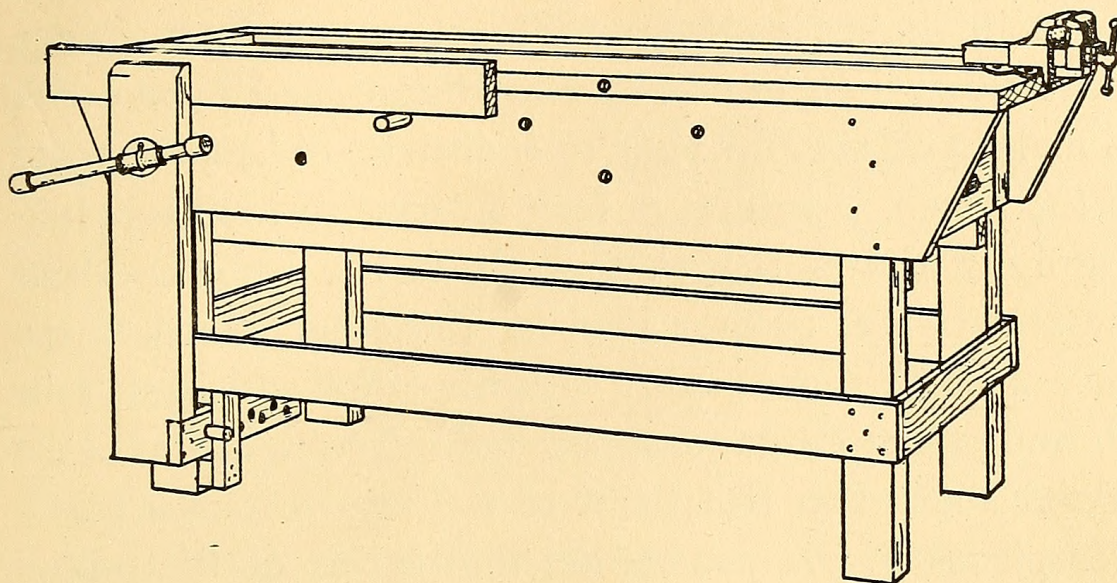
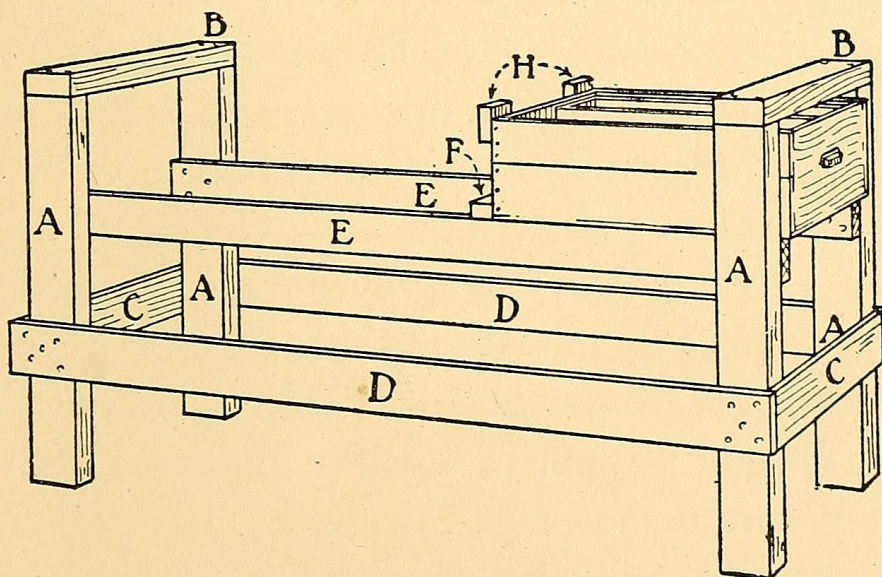
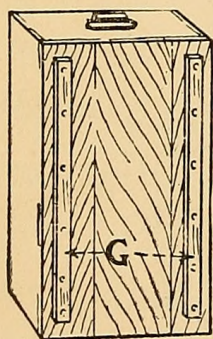

FIG. 6. — A Work Bench with Tool Drawers.
FIG. 7. — Detail of Framework.
FIG. 8. — Box
Figure 6 shows
**A Work Bench with Tool Drawers**, which is almost as simple to make as the one just described. The drawers are grocery boxes and slide into the ends of the bench on the upper rails of the framework (Fig. 7). The bench
illustrated is 6 feet long, 24 inches wide, and 2 feet 8 inches high, but as mentioned before you may change these dimensions to suit your conditions, and if you prefer to make a cabinet for your tools instead of keeping them in the bench, the drawers may be used to hold supplies. Figure 7 shows the framework of the bench. Make the end frames as described for the other bench, fasten them 4 feet 2 inches apart with the front and back rails *D*, and then cut the upper rails *E* which form the drawer slides and nail them to the legs 8 inches below crosspieces *B*. If you cannot find boxes of the proper size for
removable trays, such as are described for the tool-chest shown in Fig. 43, page 31. Nail two guide strips (*G*, Fig. 8) to the bottom of the drawers and fasten an iron drawer-pull or a wooden handle to the front. Then nail two striking blocks to the back (*H*, Fig. 7) to prevent the drawers from pulling out of the bench, and two crosspieces (*F*) in the proper places to stop the drawers when they have been pushed in flush with the ends of the bench. Figure 6 shows